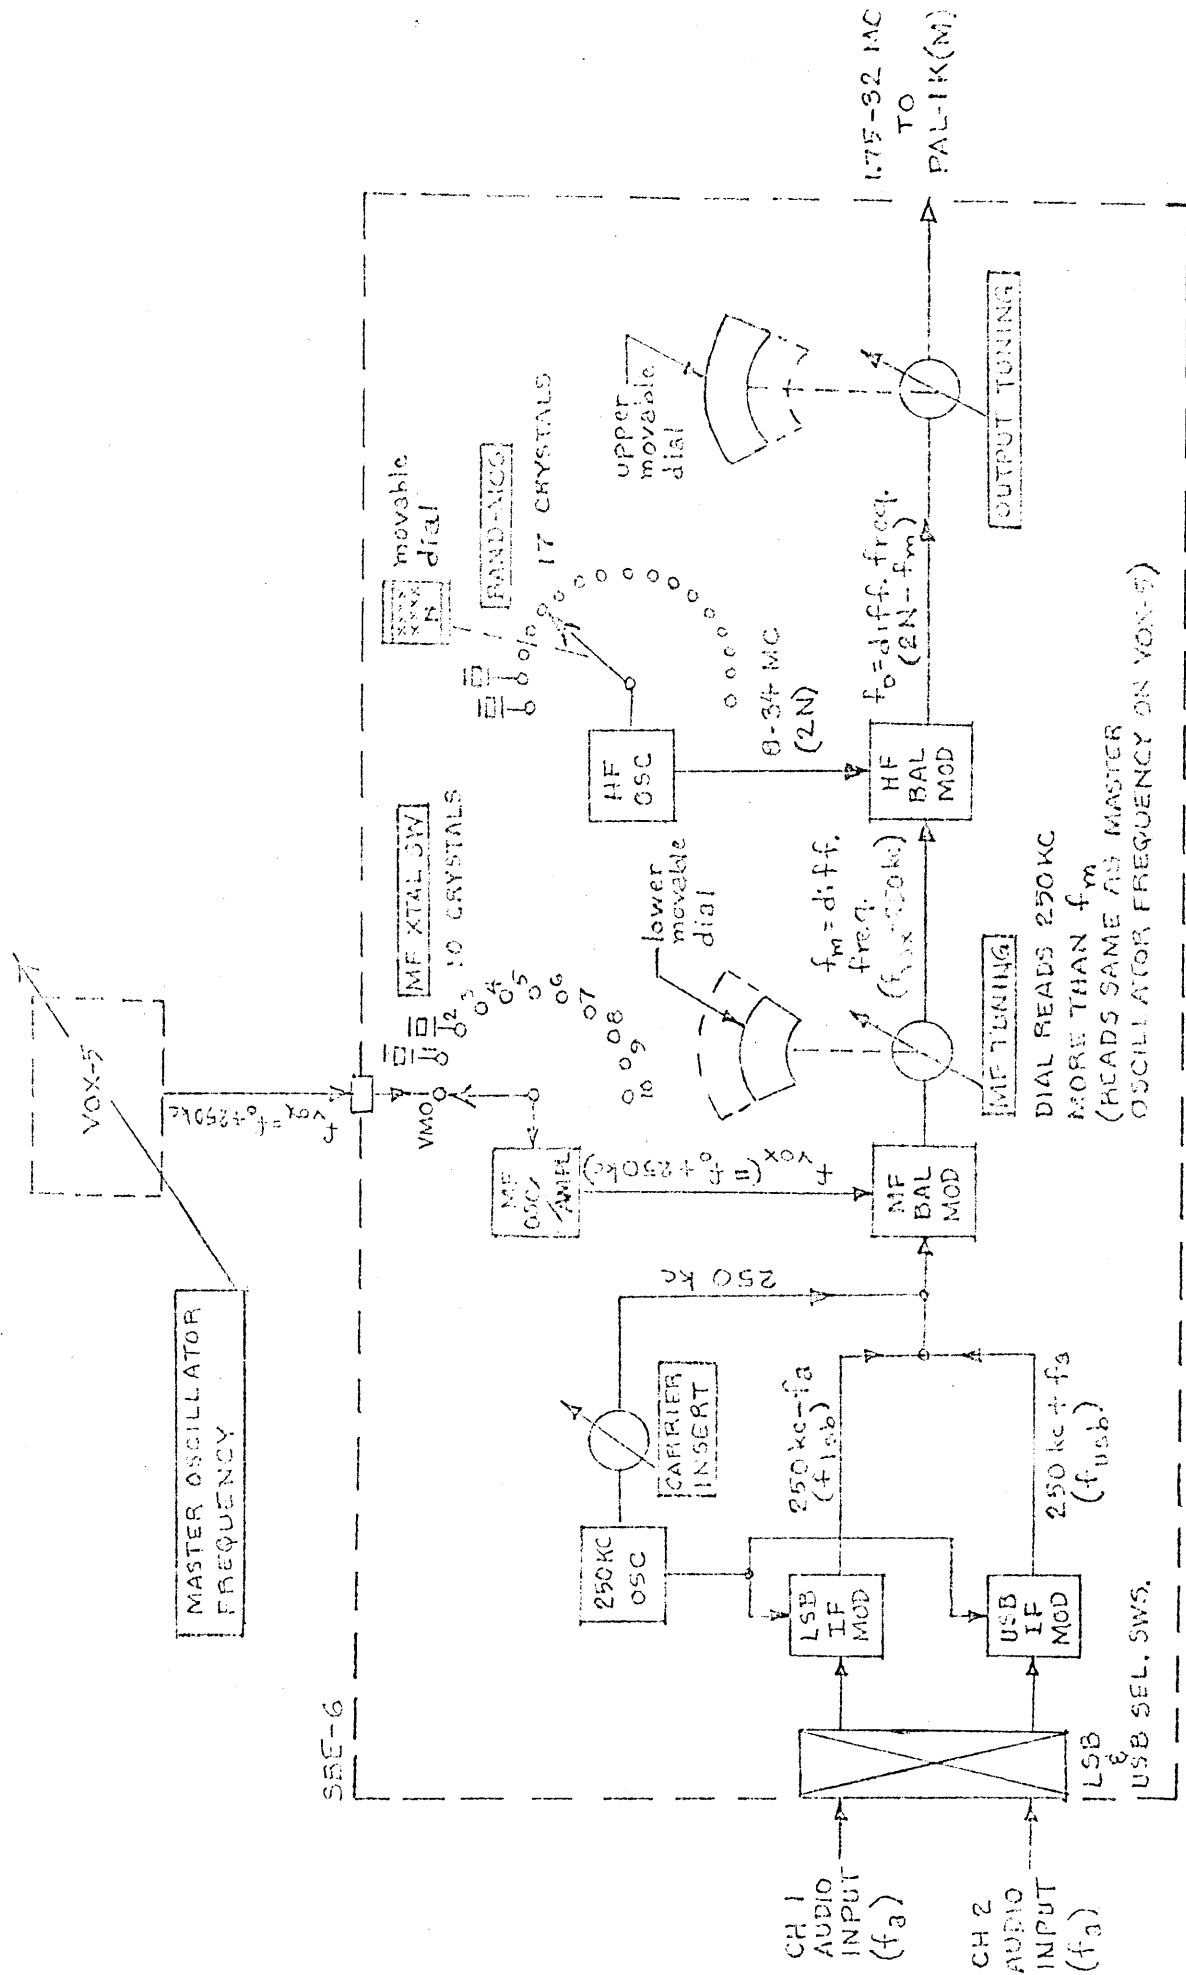

FIGURE 4-2. FREQUENCY TRANSLATION DIAGRAM, SBT-1K(V)
a. CARRIER FREQUENCY. - Figure 4-2 shows the origin of the carrier (250 kc oscillator in the SBE-6) and the successive modulation stages which bring it to the 1.75-32 mc range. When the carrier is to be between 4.25 and 32 mc, two stages of modulation are used: MF and HF. The 250-kc is mixed with the VOX-5 2-4 mc output in the MF Modulator to raise the carrier into the 2-4 mc stage. The difference frequency output of the MF Modulator is then mixed with the HF Oscillator output in the HF Modulator to produce a dif-
The carrier frequency translation may then be described in terms as follows (see figure 4-2): -
b. LOWER SIDEBAND FREQUENCIES. - As shown in figure 4-2, an audio tone,  $f_a$ , at SBE-6 audio input mixes with the 250-kc in the LSB IF Modulator to produce a lower sideband tone equal to 250-kc minus  $f_a$ . The LSB filter in the modulator output blocks out the 250-kc and passes only the lower sideband tone ( $f_{\text{lsb}}$ ). The 250-kc component is further blocked off by turning the CARRIER INSERT knob to minimum and only  $f_{\text{lsb}}$  enters the MF Modulator, where it mixes with  $f_{\text{vox}}$  to produce  $f_{\text{vox}} - (.250 - f_a)$  or  $f_{\text{vox}} - .250 + f_a$  at the modulator output. The MF Modulator output then mixes with 2N
d. CARRIER RE-INSERTION (figure 4-2). - In sideband transmission, the 250-kc carrier originating frequency removed by the i-f modulators may be re-inserted by means of the SBE-6 CARRIER INSERT knob. The output carrier frequency ( $f_o$ ) then evolves as described in paragraph 4-3a and is transmitted alongside the sideband in the frequency spectrum. The carrier remains a constant frequency and amplitude as set and the sideband frequency varies in frequency and amplitude as does the audio input frequency ( $f_a$ ). The CARRIER INSERT control is turned up to full maximum in AM transmission.